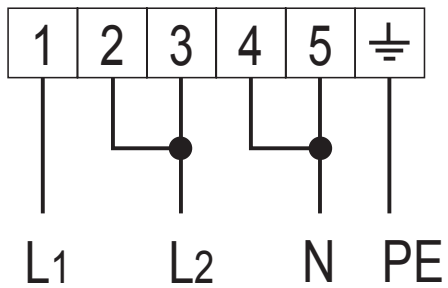

Fig. 2.2
- Position the U bolts onto terminal block “B” (fig. 2.1) according to the diagram in figs. 2.2, 2.3.
- Connect the phase and earth cables to terminal “B” according figures 2.2, 2.3.